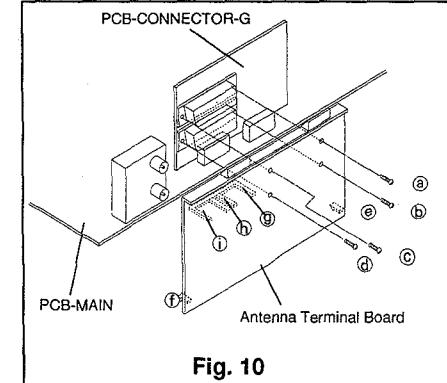

Fig. 10
- (2) Remove four screws (⑩, ⑪, ⑫ and ⑬); unfasten five catches (⑭~⑯) on the Antenna Terminal Board as shown in Fig.10, and remove the Antenna Terminal Board.
- (3) Raise the PCB-CONNECTOR-G upward to remove it.